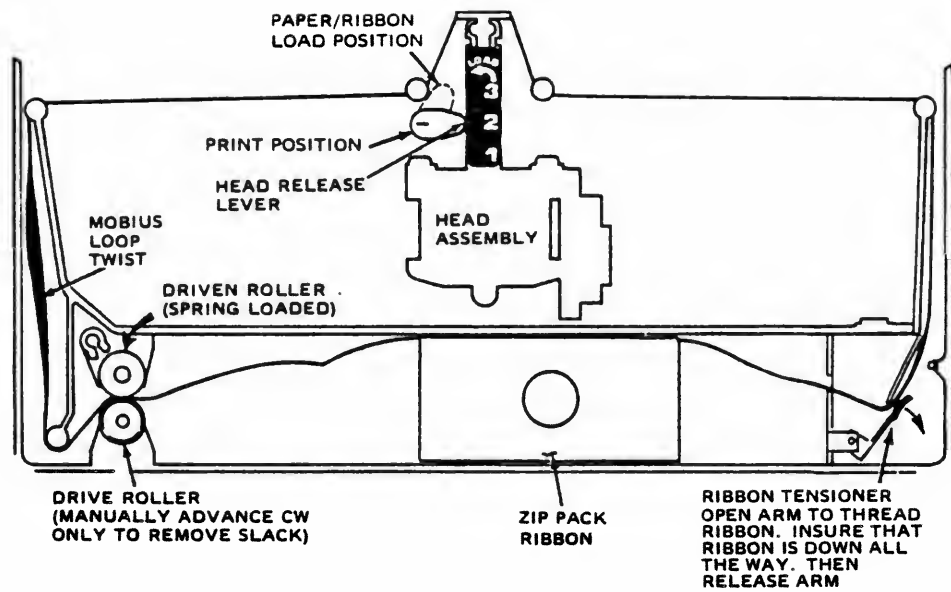

Figure 4. RIBBON THREADING DIAGRAM
3. Refer to Figure 4 and push the driven roller away from the drive roller and unthread the old ribbon and discard it.
6. Pull ribbon out from both ends of Zip-Pack and thread according to ribbon threading diagram, being careful to position mobius loop twist on the left side (See Figure 4).